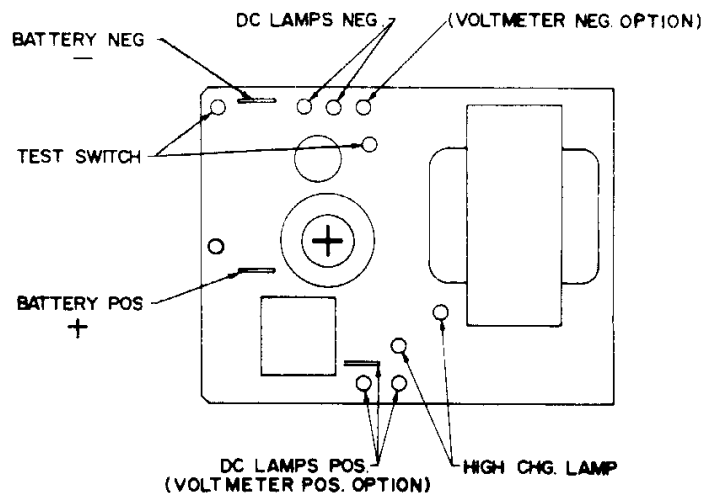

Fig. 2
3. Connect battery leads red (+), yellow (-). See Fig. 2.
When connecting the battery leads, double-check for correct polarity. See Fig. 2.
Connect remaining wires to charger assembly (Fig. 2), leaving the battery connections until last. Be sure that battery leads are connected yellow (-) to terminal and red (+) to terminal. Replace shell, energize AC input.